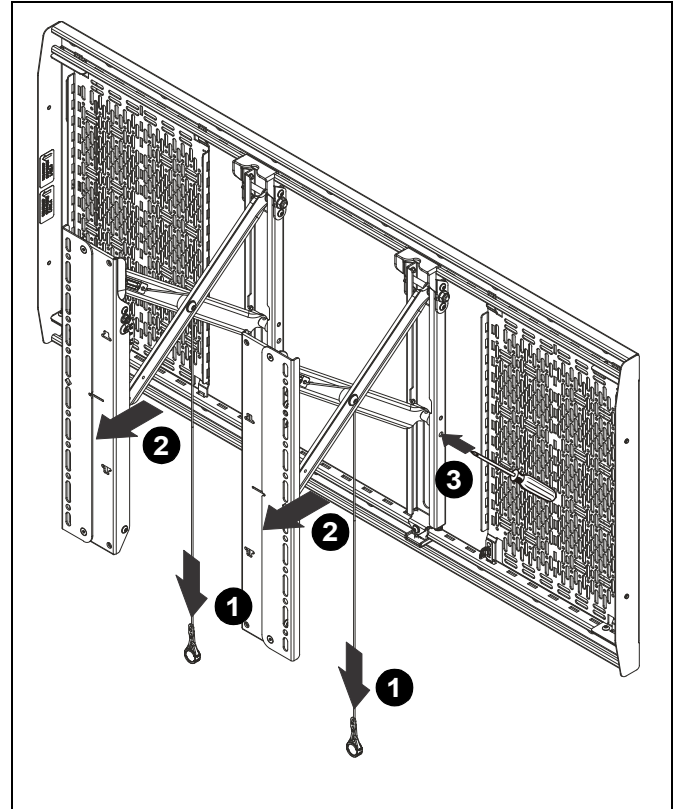

Figure 34
- To Extend Mount:** Pull on the home latch release cords for both interface brackets (A and B). (See Figure 34)
- A Screwdriver or metal rod may be inserted through holes to lock brackets in service position. (See Figure 34)